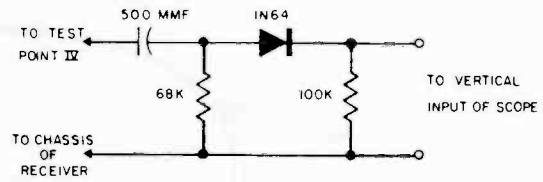

FIGURE 10. DETECTOR NETWORK
2. Connect detector network (Figure 10) to Test Point IV and set contrast to maximum. Connect oscilloscope to network.